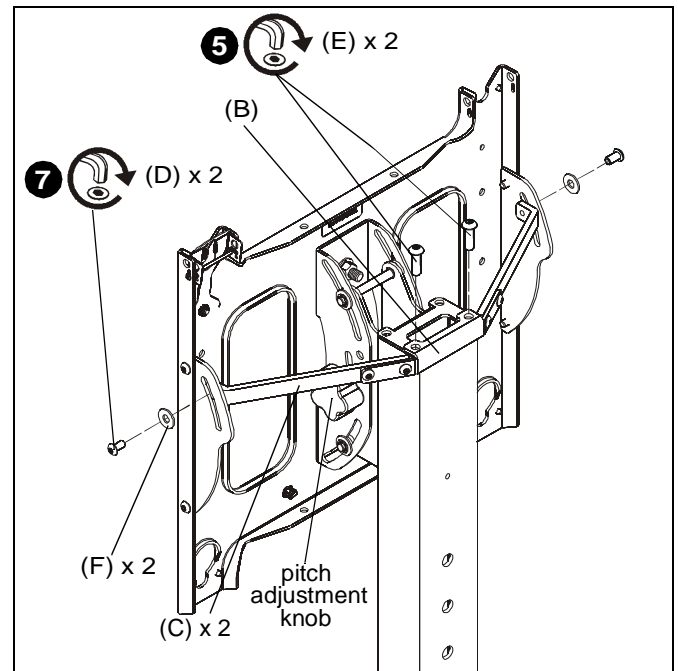

Figure 4
4. Connect column attachment bracket (B) to side attachment brackets (C) using four 1/4-20 x 1/2" button head cap screws (D). (See Figure 4)
5. Secure column attachment bracket (B) to cart column using two 5/16-18 x 1" button head cap screws (E). (See Figure 4)
6. Use pitch adjustment knob to adjust pitch to desired level. (See Figure 4)
7. Connect two side attachment brackets (C) to side pitch brackets (A) using two 1/4-20 x 1/2" button head cap screws (D) and two 1/4" washers. (See Figure 4)